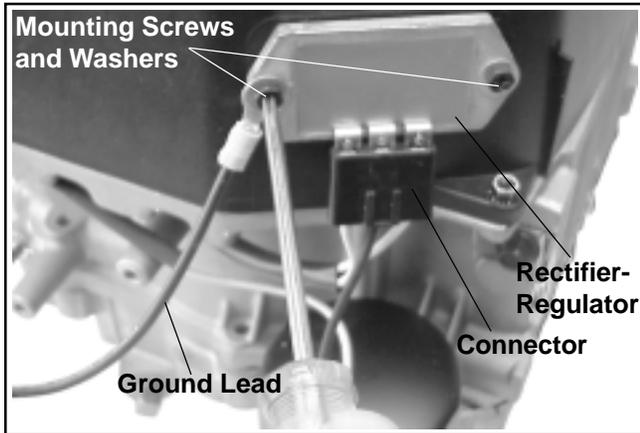

Figure 11-59. Installing Rectifier-Regulator (not on all models).
- Install the rectifier-regulator including the ground lead (if used), and secure it with the two mounting screws. See Figure 11-59.